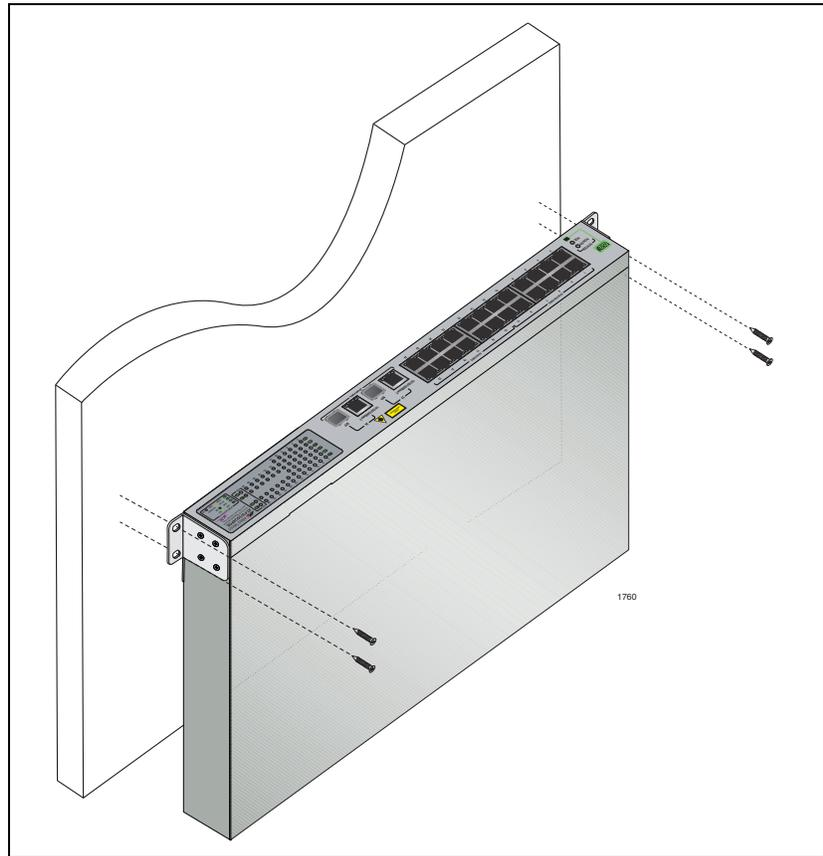

Figure 10. Positioning the Switch onto the Wall with Mounting Screws
5. Position the switch on the wall and fasten with four screws, as illustrated in Figure 10 on page 43.